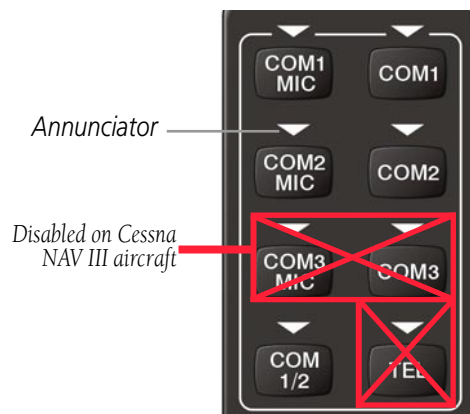

Figure 5-2 Transceiver Keys
Pressing any key on the audio panel activates and deactivates the function. Triangular annunciators above each key illuminate to show when the function is on or off (Figure 5-2).
The following four (4) transceiver keys appear at the top of the audio panel front panel: **COM1 MIC**, **COM2 MIC**, **COM1**, and **COM2** (Figure 5-2). COM audio can be selected by pressing either the desired COM key or by pressing a COM MIC key.